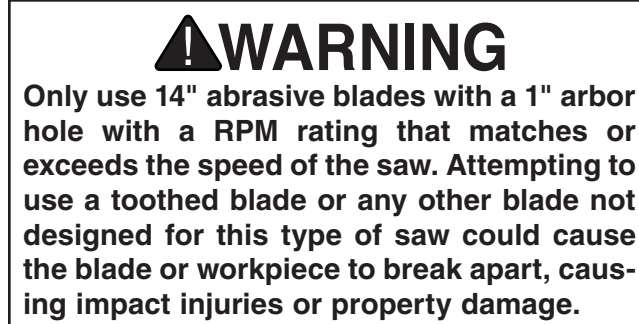

Figure 12. Example photo of workpiece held firmly between the vise jaws.
5. Use the vise crank handle to apply additional vise pressure on the workpiece until it is firmly held between the jaws (see **Figure 12** for an example).